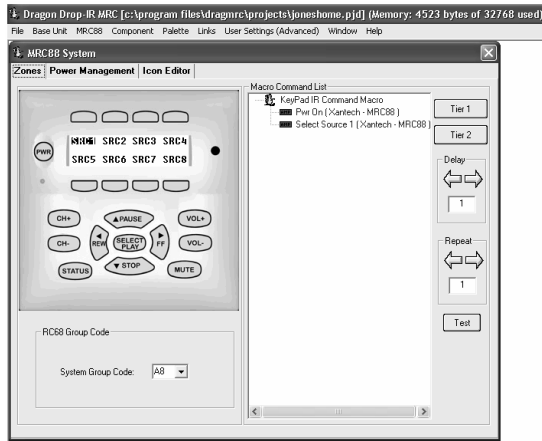

Figure 14
5. The MRC88 System Window will appear. Depending upon which mode was selected in step 1, (**BASIC** or **ADVANCED**), the System Window will offer different TAB's for system configuration. See **Figure 14 & 15** below.